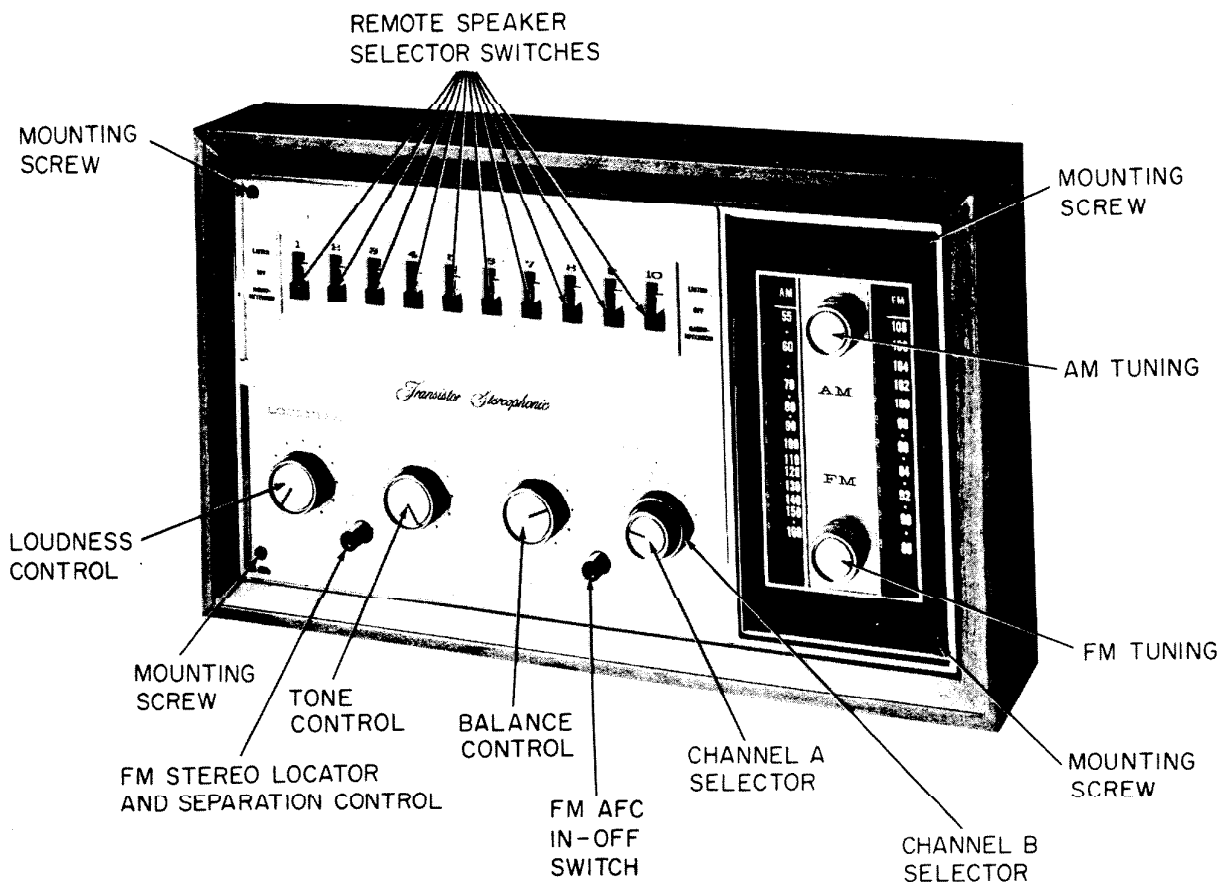

Fig. 1. Master station front panel.
2. Pull and remove seven (7) front panel control and switch knobs. It is not necessary to remove the FM Stereo Locator and FM AFC knobs.
3. Remove four (4) front panel mounting screws (Fig. 1) and remove front panel.